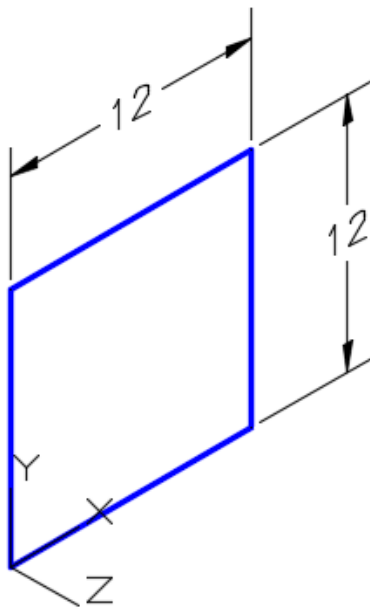

Figure Step 4A
Step 4 Using Figure Step 4A as a reference, draw a 12 x12 inch closed pline. Start the bottom left corner at 0,0,0 as shown in the figure. (Figure Step 4A and 4B)